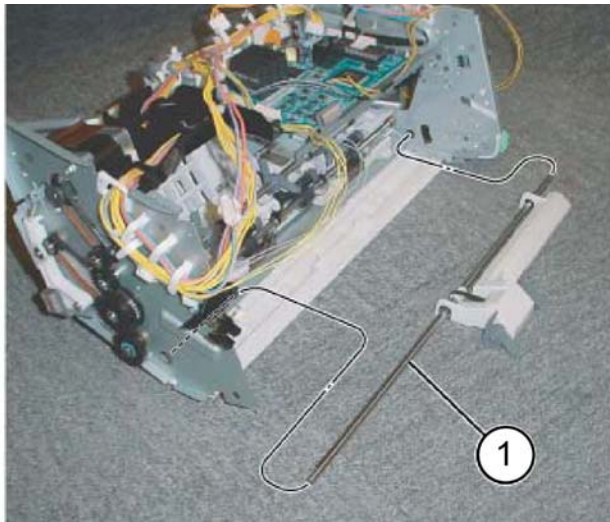

Figure 5 Paddle link assembly removal
7. Remove the paddle link assembly (1), Figure 5: